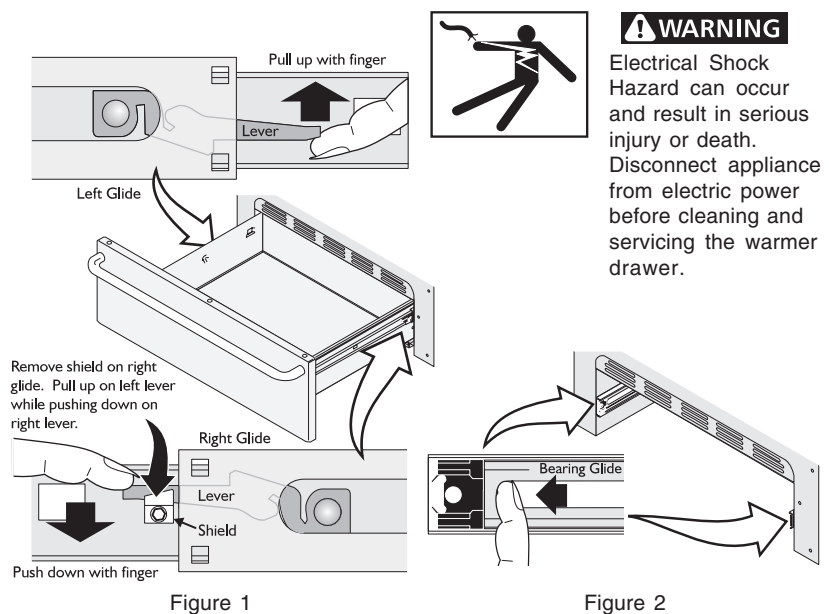

Figure 1
- On the right glide you will find a shield attached with a hex-head screw (see figure 1). Using a 1/4" socket and ratchet remove the shield.